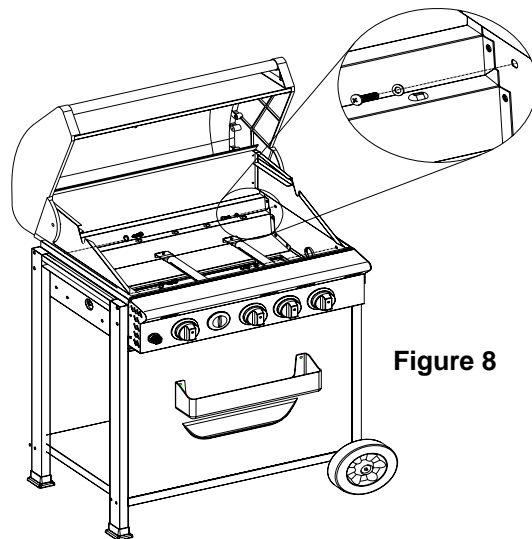

Figure 8
2. Attach grill head to the cart by using (4) $\frac{1}{4}$ x $\frac{3}{5}$ " Phillips head screws with (4) $\frac{1}{4}$ " flat washers. (Fig.8)